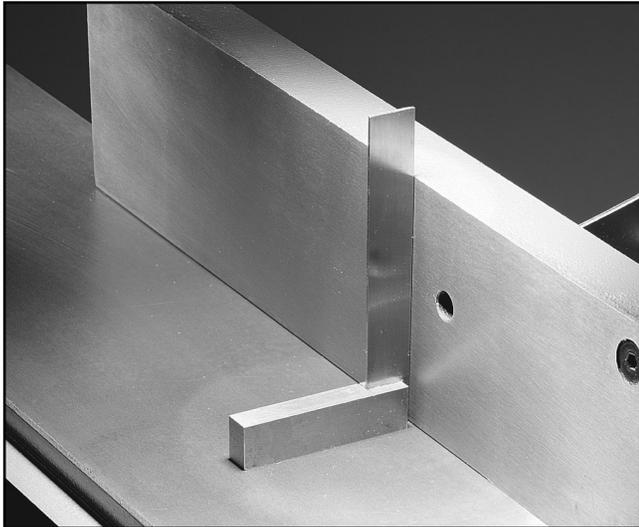

Figure 19. Use of machinist's square to align fence.
1. Place a square on the outfeed table fairly close to the cutterhead. See **Figure 19**.